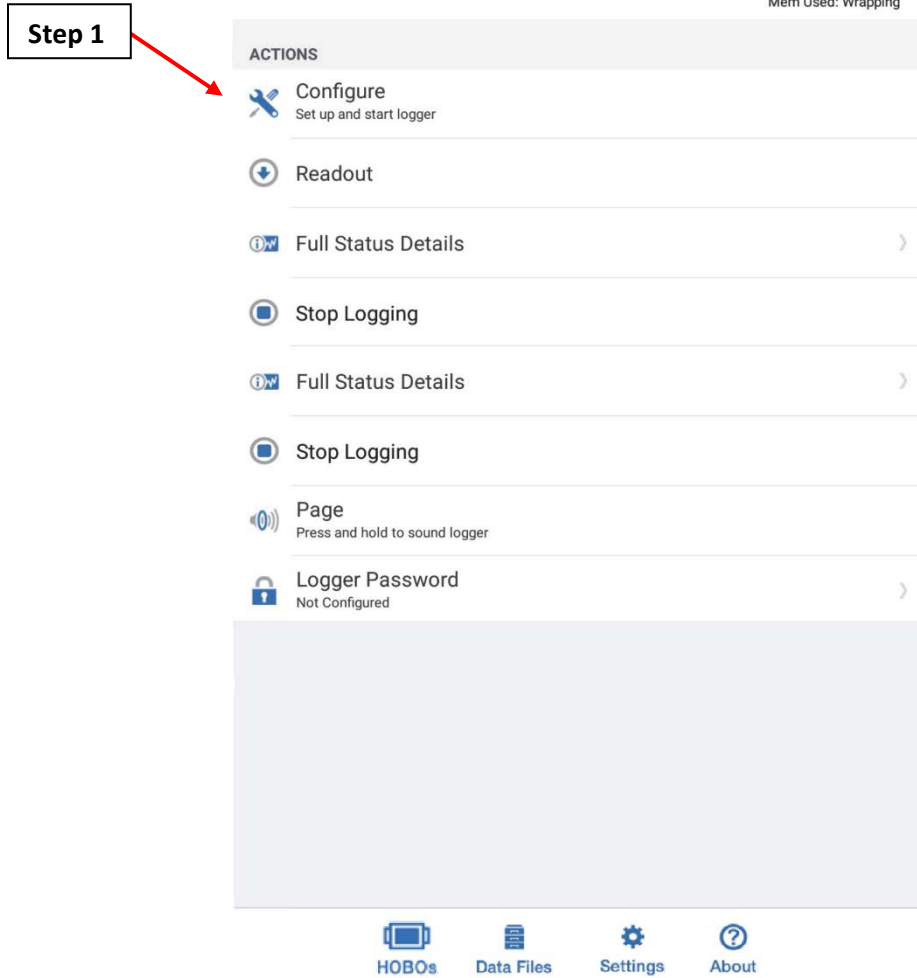

Figure A.7.3: HOBOMobile "Connected" screen.
1. After connecting to the MX2301 Data Logger by following section A.7.1, tap the “Configure” option (Figure A.7.3).